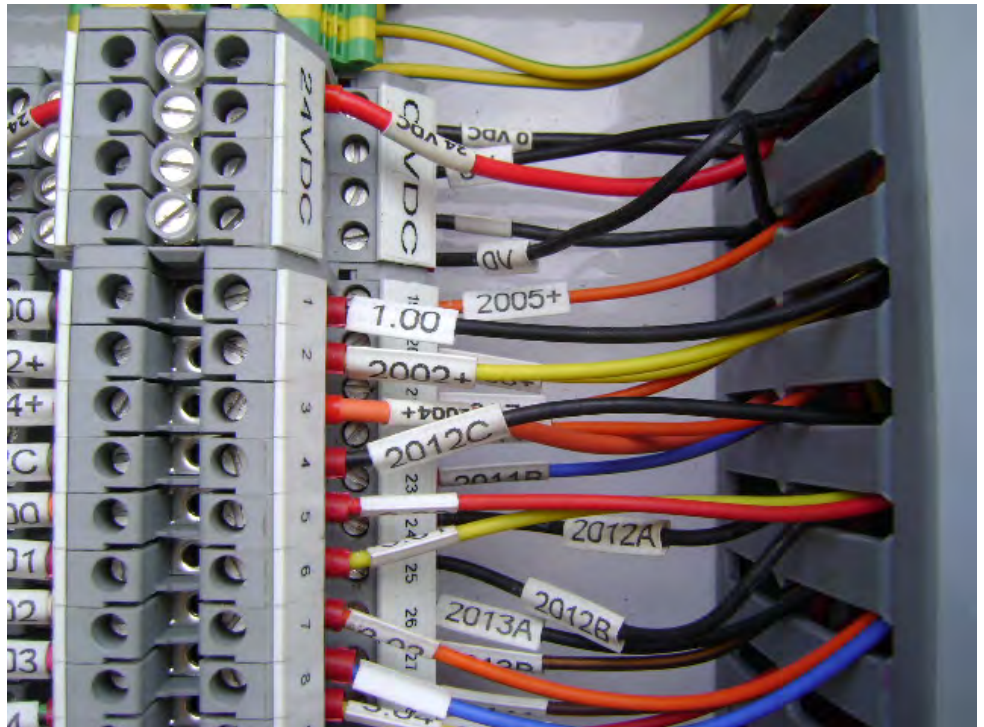

Figure 20
20. Terminate the coil wires back to their proper locations (as removed) (Figure 20).